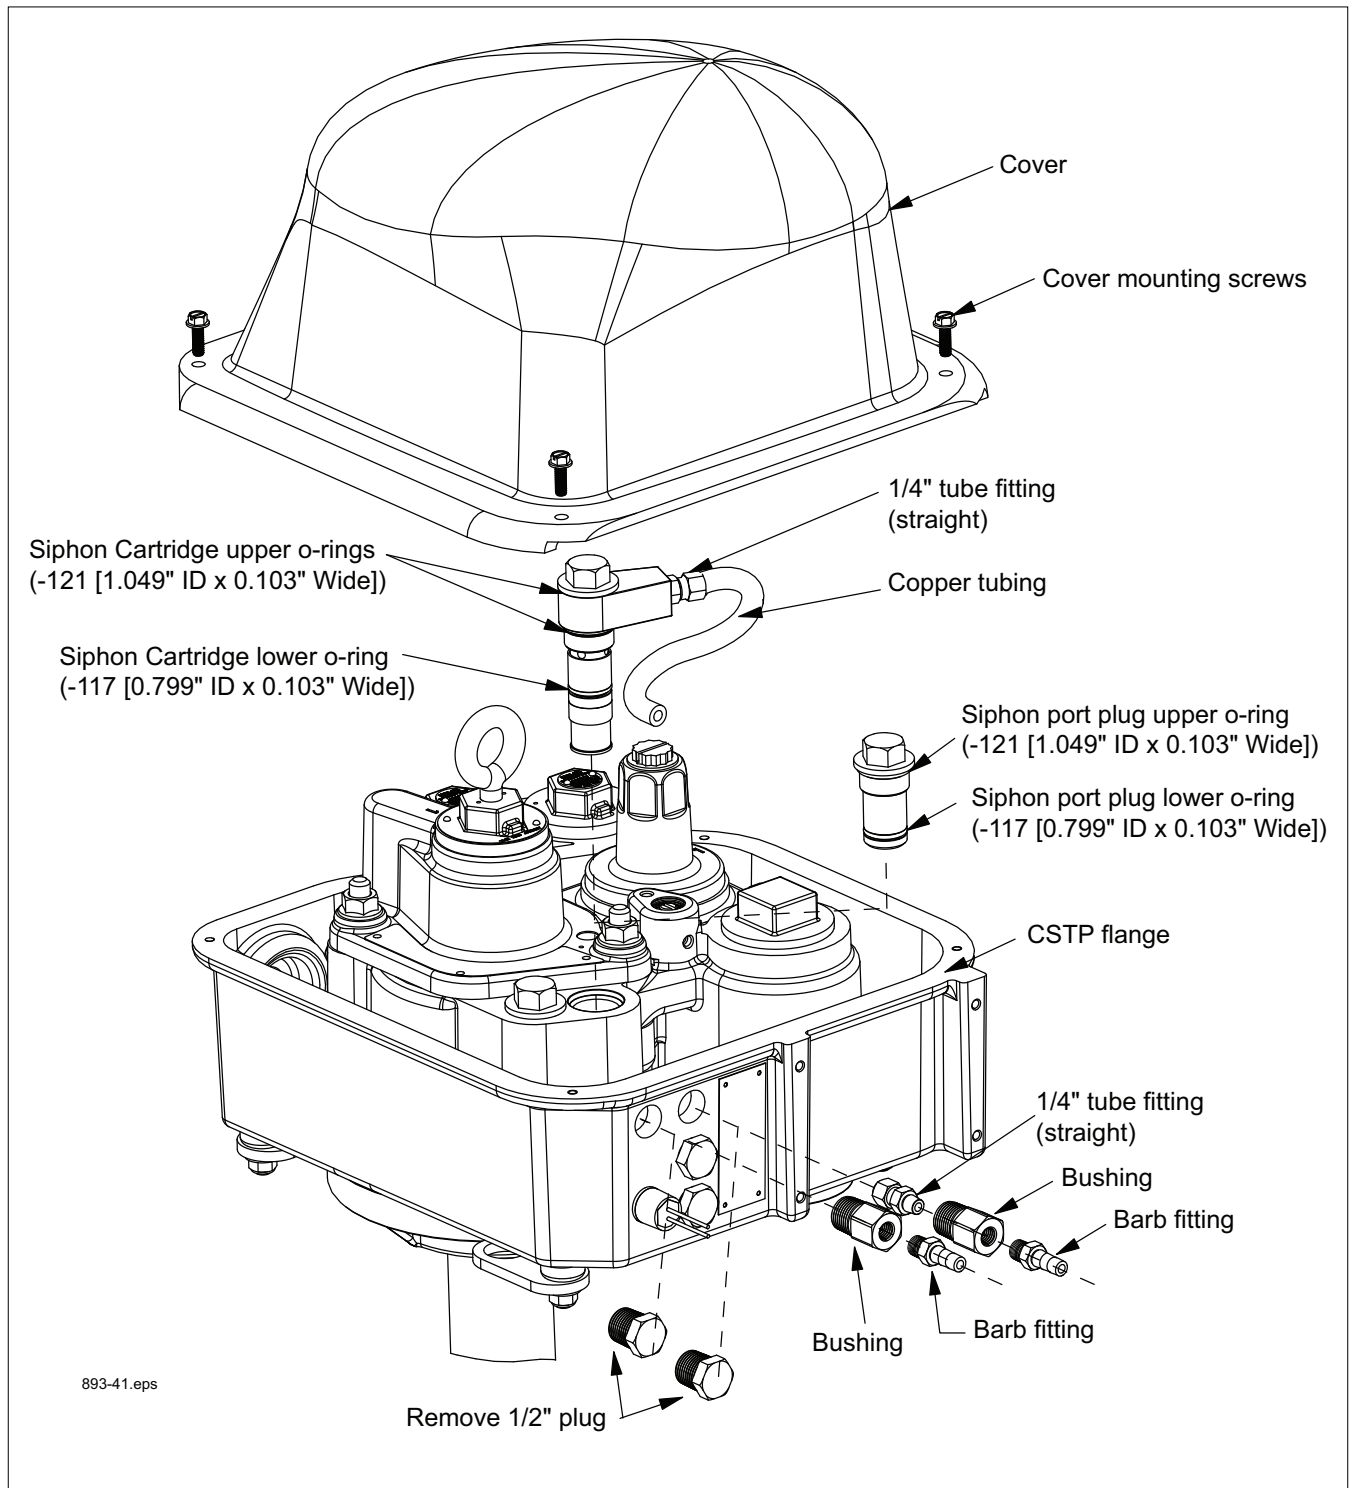

Figure 54. Inserting Siphon Assembly Into Manifold
8. Remove one of the two siphon port plugs from the manifold (see Figure 54).
14. Remove and discard the 1/2-inch plug on the CSTP secondary wall (see Figure 54).
16. Connect the fittings with the copper tubing provided in the kit (see Figure 54).
17. Connect the second barb fitting to the second bushing (apply an adequate amount of fresh, UL classified for petroleum, non-setting thread sealant to the threads) and torque to 17 ft-lb (23 N•m), (see Figure 54).
18. Remove and discard the second 1/2-inch plug on the CSTP secondary wall (see Figure 54).
19. Install the bushing (apply an adequate amount of fresh, UL classified for petroleum, non-setting thread sealant to the threads) from step 17 into the 1/2-inch port and torque to 30 ft-lb (41 N•m), (see Figure 54).